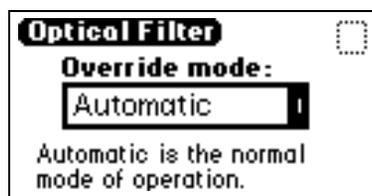

Figure 5-10 Optical Filter Override Diagnostic
1. From the Other diagnostics choice list, press **1 Optical filter override** to manually override the detector's automatic filter choice. The Optical Filter Override diagnostic is displayed (Figure 5-10).